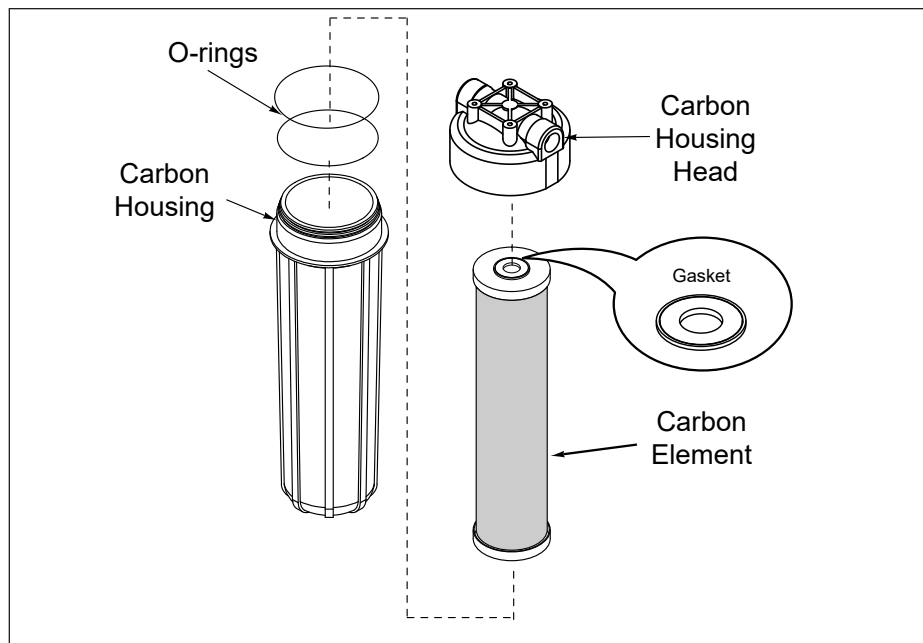

Figure 9. Carbon Element
3. Remove the Carbon Element Housing (Figure 9).
5. Inspect the O-Rings on the Carbon Element Housing (Figure 9). Replace the O-Rings if it is cracked, twisted, or missing.